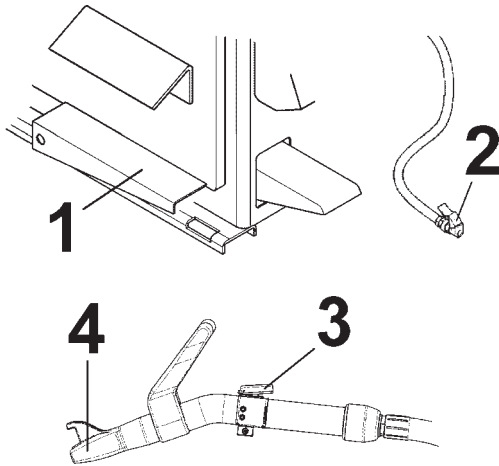

Fig. 4.3-1
C. Place the Nozzle against the rim edge (Fig. 4.3-1).
D. Press the inflation pedal (1 Fig. 4.3-1) and the button (3) on the Nozzle. The injectors (4) eject a large volume of air and the tyre beads properly seal the rim flanges allowing the subsequent inflation.
**NOTE:** Air simultaneously comes out of inflator hose (2) and Nozzle (4).